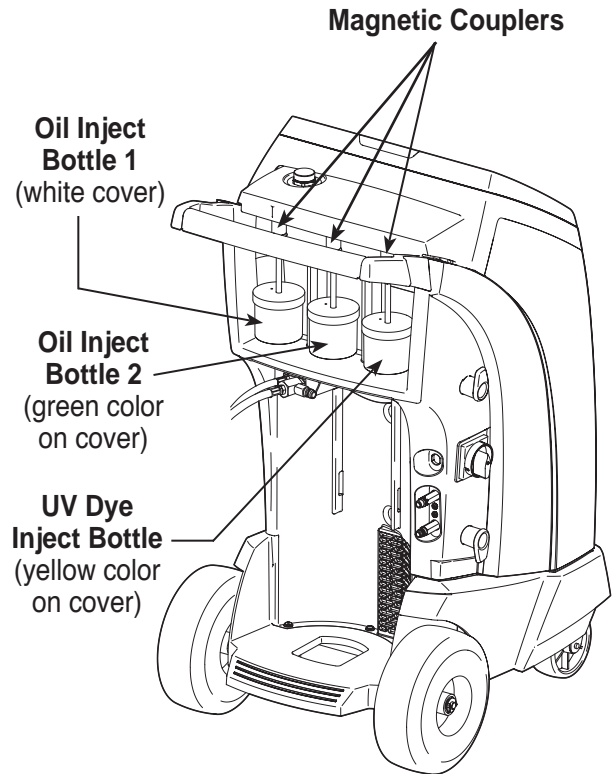

Figure 23
1. Remove the dye inject and oil inject bottles from their scales. See Figure 23.